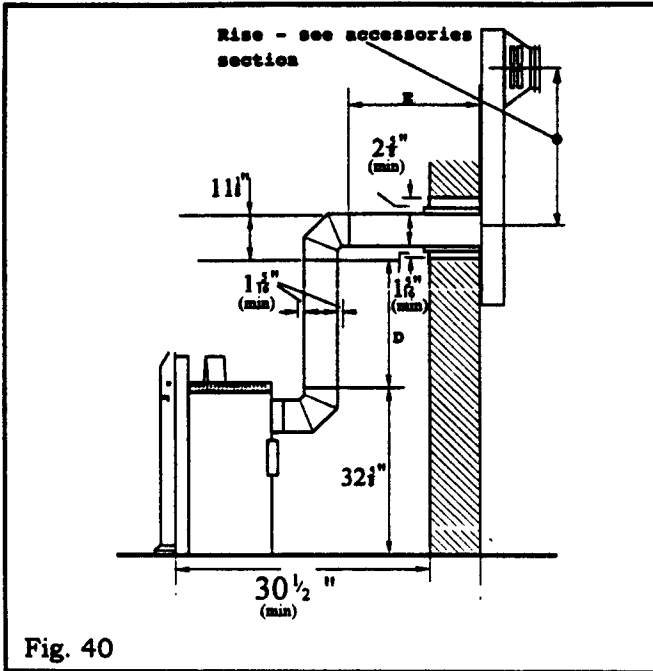

Fig. 40
9.2.1.4 Cut a round hole 6⁵/₈" diameter. (Fig 40.)